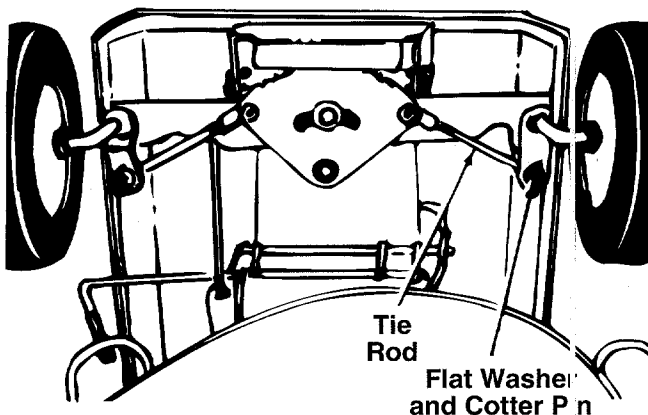

FIGURE 19.
1. Remove the cotter pin and flat washer which hold the tie rod to the axle bracket. See figure 19.